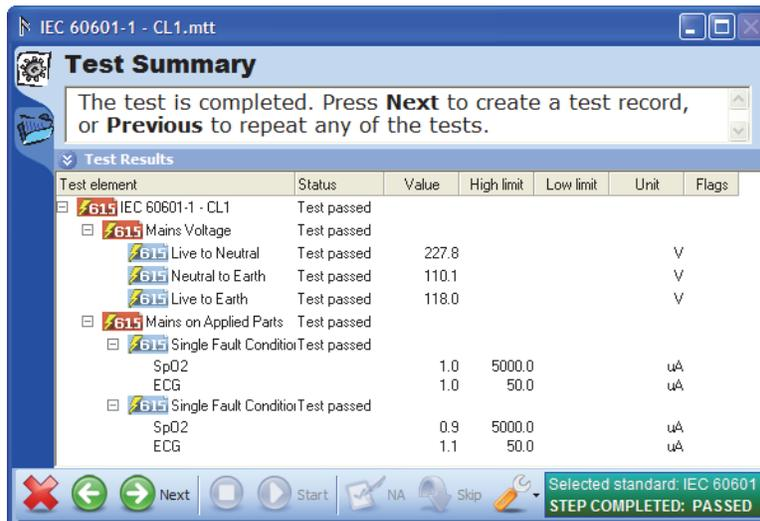

Figure 3-14. Test Summary Window
2. Click the **Next** button (➡) to open the Test Summary window as shown in Figure 3-14.